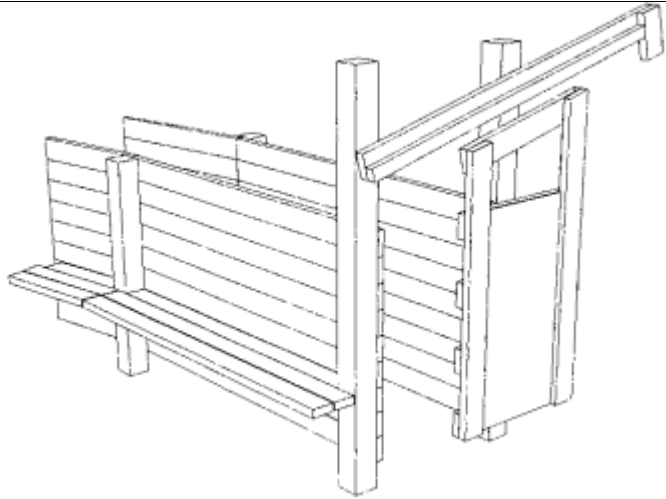

Figure 6 Blocking Gate
- Blocking gates at the entrance and exit of the working chute are required (Figure 6).